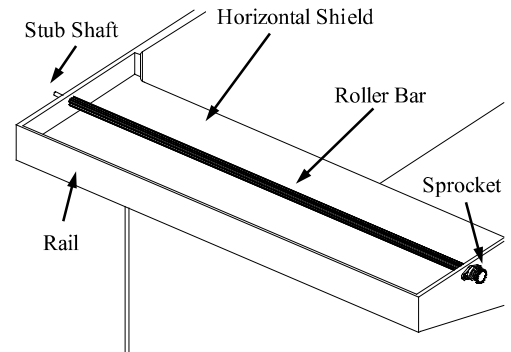
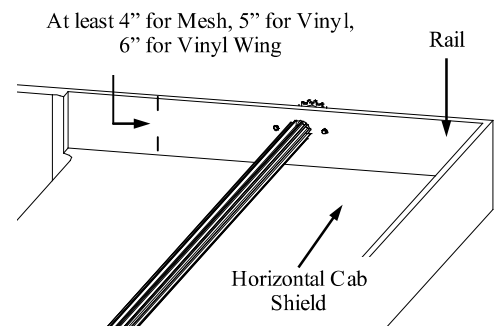

Figure 1
Figure 1a
**Mounting the roller assembly through the cab protector, see figure 1.** To use this mounting method there must be a distance of at least four inches between the top of the rail on the outside of the cab protector and the horizontal shield plate, see figure 1a. If this distance is available and the “through the cab protector” mount is desired, then follow these instructions.